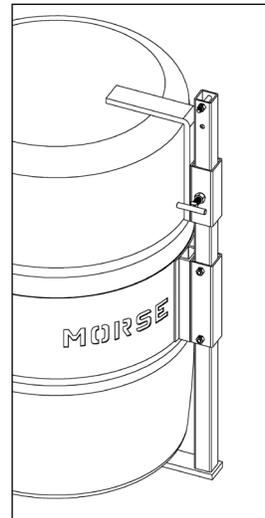

Figure 2.2
- The **Bracket Assembly** (Kit # 4556-P) is **required** to handle a RIMLESS plastic or fiber drum - a drum without a top rim (see figure 2.2). You can use the Bracket Assembly with a 55-gallon (210 liter) plastic, steel or fiber drum. The brace at top and bottom of the drum prevent it from slipping lengthways through the drum holder. It adjusts for a drum 31" to 39" (79 to 99 cm) tall.